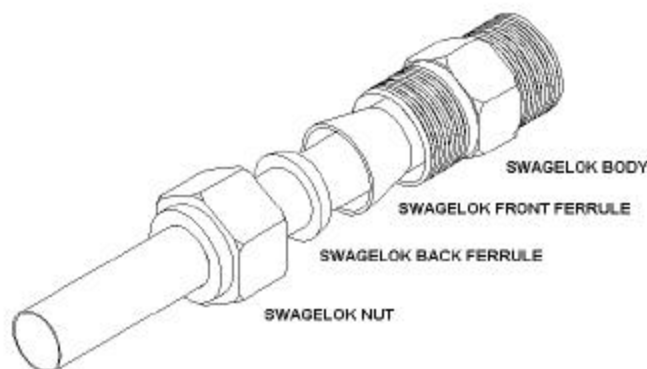

Figure 4.4-1 Swagelok Fitting Exploded View Showing Ferrules Orientation
4.4.5 Makeup nut and ferrule(s) on tubing. See Figure 4.4-1.